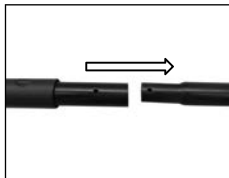

fig 1.
1. Ensuring the locking holes are aligned, insert the Upper Handle [3] into the Lower Handle [2] (fig.1).